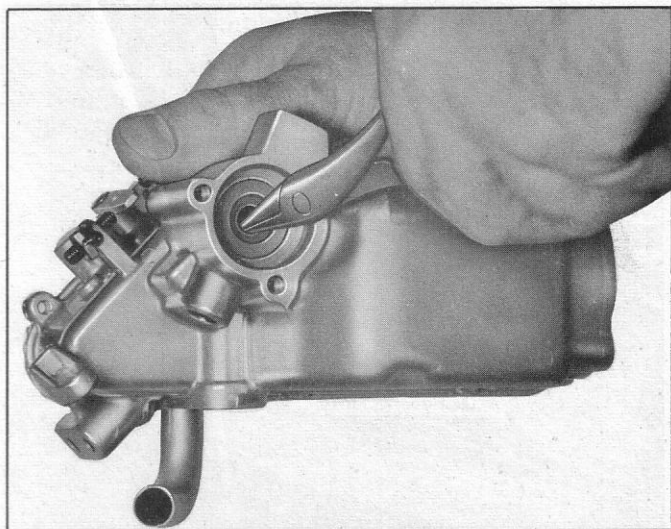

Fig. 43—Removing Spill Plunger Assembly
5. Remove spill plunger cover and filter, carefully pull spill plunger and sleeve assembly from fuel meter bore (fig. 43).